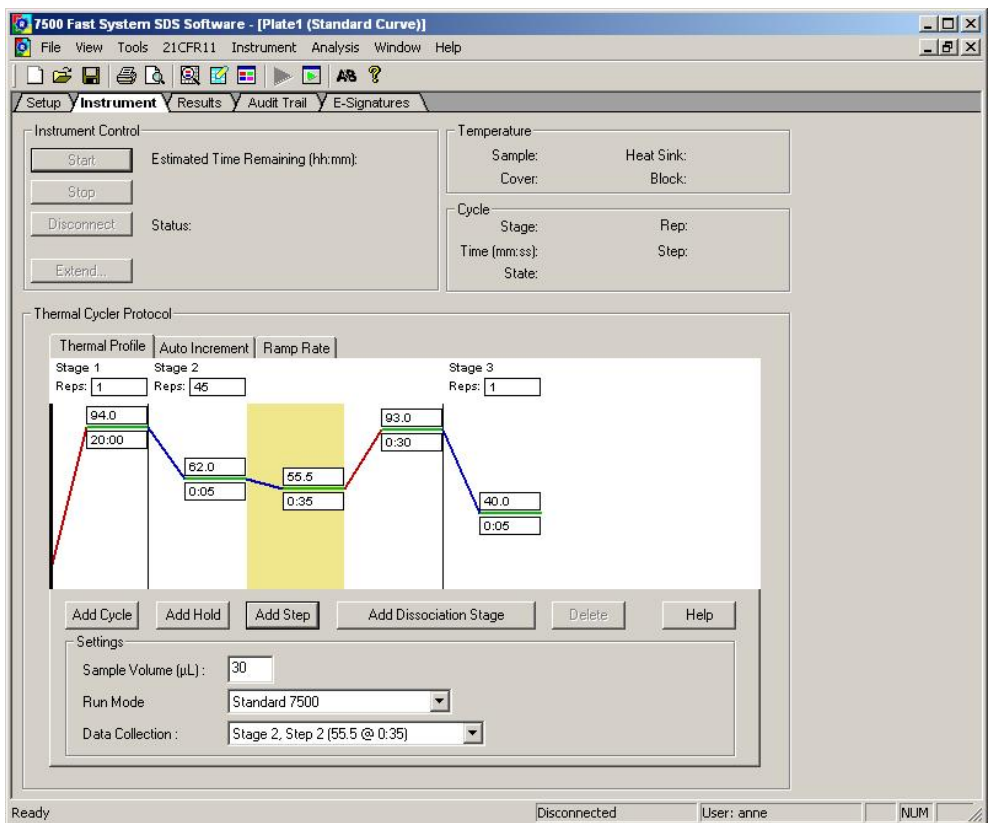

Figure 2: Screenshot from SDS v1.4 software after setting cycler program and detection mode.
- Confirm the Thermal Cycler Protocol settings according to Table 7 (see Figure 2).